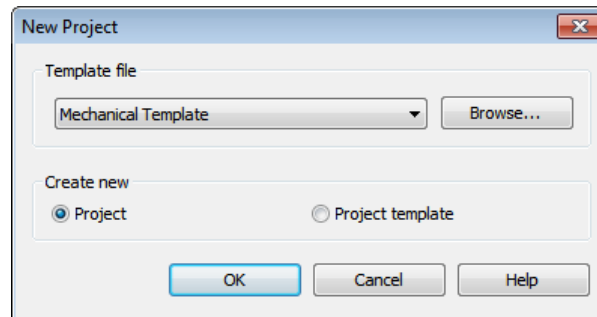

Figure 2-27 The New Project dialog box
- b. Use **Systems-Default** (Imperial) or **Systems-Default_Metric** (Metric) as the template file for the project, refer to Figure 2-27.
1. Click on the **Application** button; the **Application Menu** is displayed. Choose **New > Project** from this menu; the **New Project** dialog box is displayed, as shown in Figure 2-27.